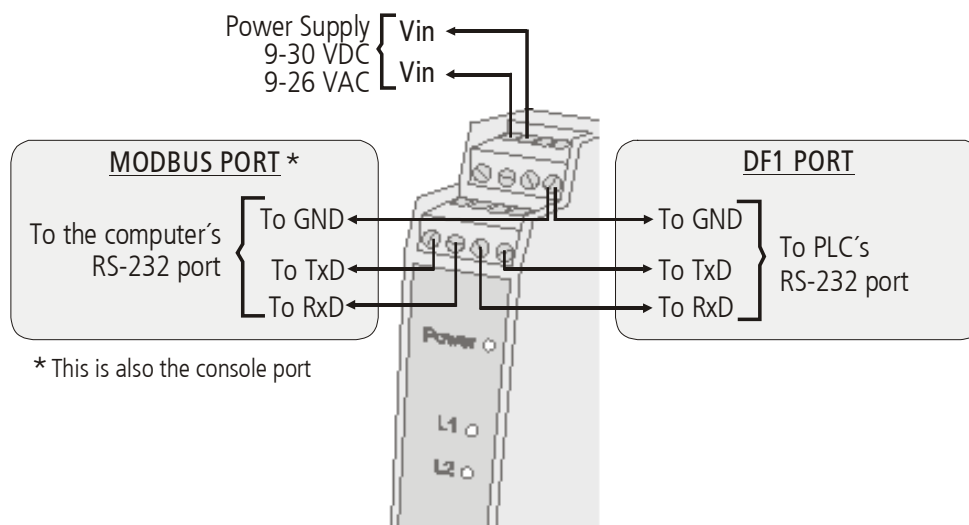

Figure 1 – Wiring instructions
**Power supply and RS-232 ports:** These signals are located in the top green connectors. Figure 1 shows the basic wiring. Refer to Appendix A if you need more details.